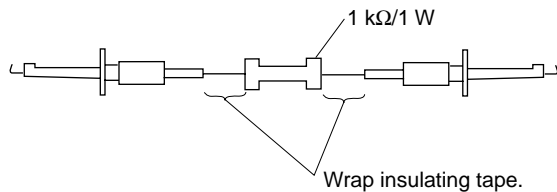

Fig. 5-1-5
- 1) Connect the equipment for adjustments according to Fig. 5-1-5.
2. Fabricate the short jig as shown in Fig. 5-1-5 locally by yourself. Connect the short jig to the pin ① and pin ② of CN404 on the BT-006 board. Allow ten seconds to discharge the voltage.